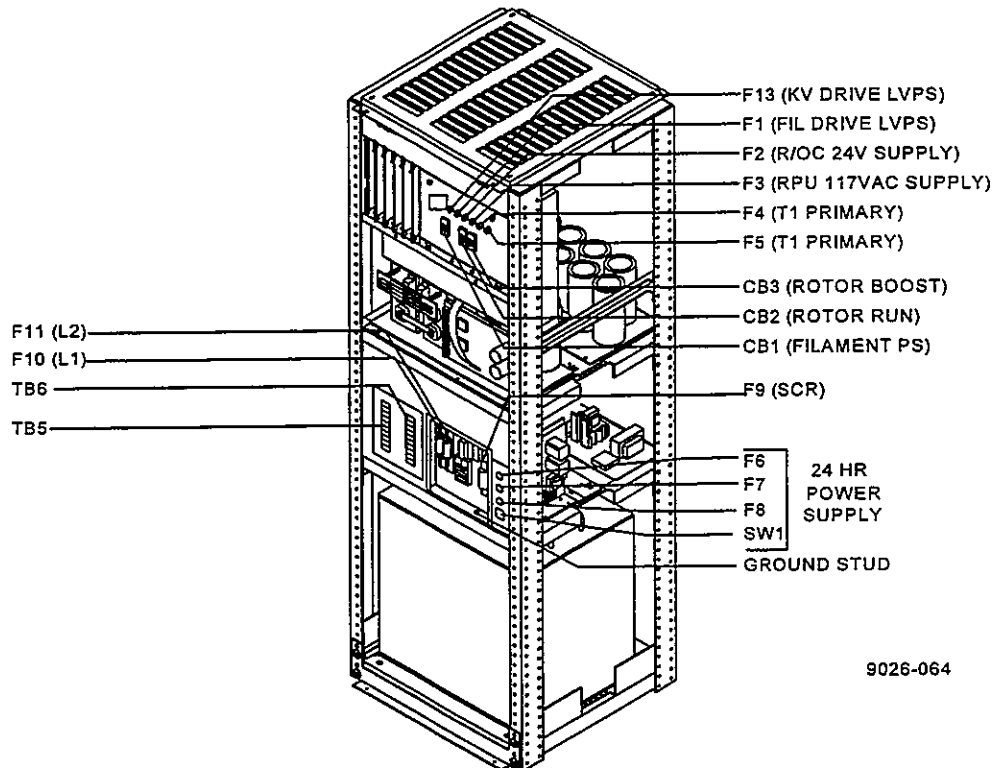
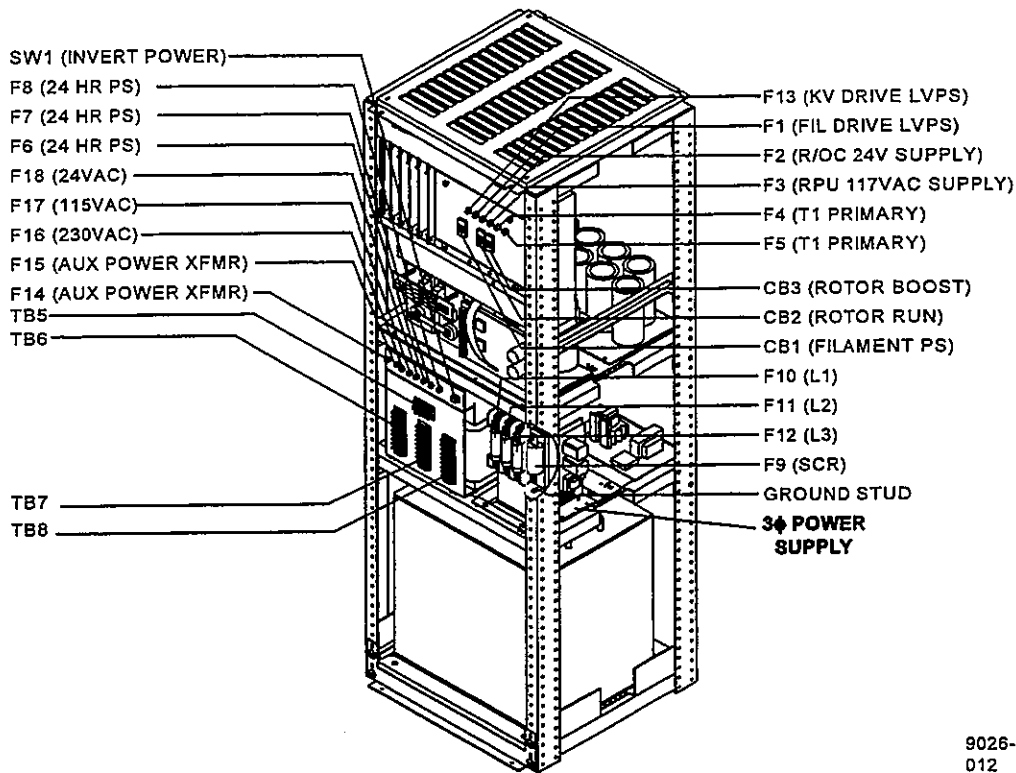
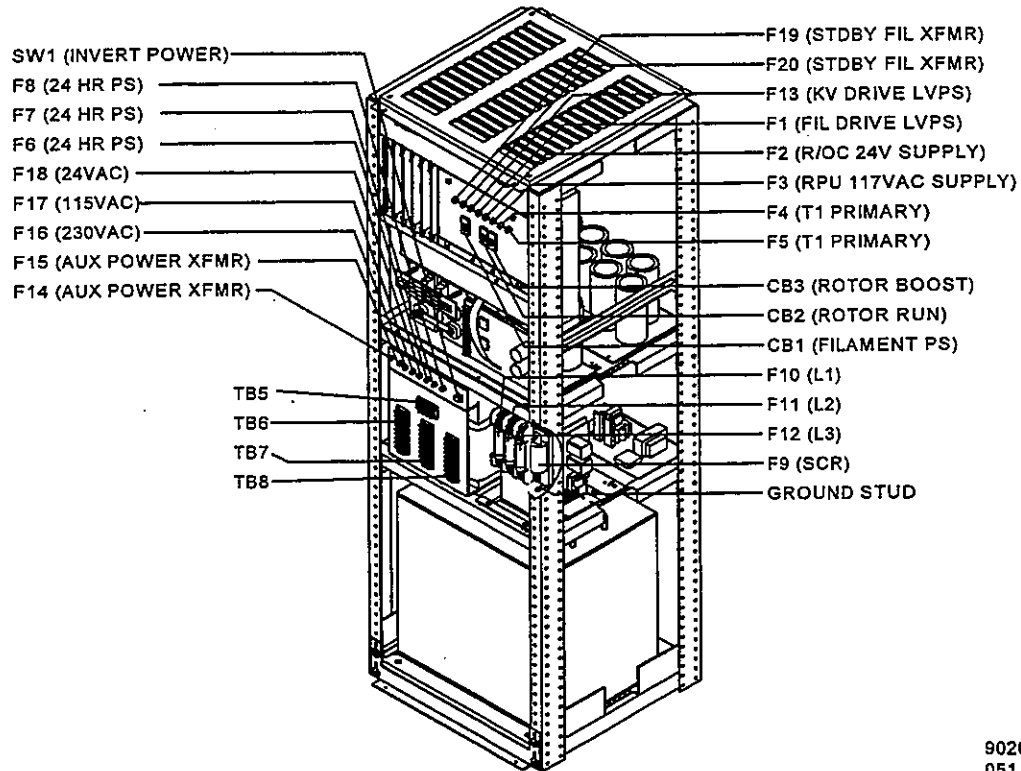

FIGURE 2-2 1-TUBE, 1 ϕ RPU PROTECTION COMPONENT LOCATION
FIGURE 2-3 1-TUBE, 3 ϕ RPU PROTECTION COMPONENT LOCATION
FIGURE 2-4 2-TUBE, 3 ϕ RPU PROTECTION COMPONENT LOCATION
14. Verify all fuses are installed, see **FIGURE 2-2** and **FIGURE 2-3** for a 1-tube, 1 ϕ and 3 ϕ generators, see **FIGURE 2-4** for a 2-tube, 3 ϕ generator.
500 VDC power is supplied to the inverter via [SW1] located on the fuse box (FIGURE 2-4 or 2-5). When the 24-hour power supply is active, [SW1]'s indicator lamp is illuminated. LEDs L6 and L7 are located on the gate drive PCB. When L6 is ON, 500 VDC is present at the inverter. If the SCR fuse F9 opens, LED L6 will extinguish, while the [SW1] indicator lamp will still be ON. L7 signals failure of the 500 VDC when ON.